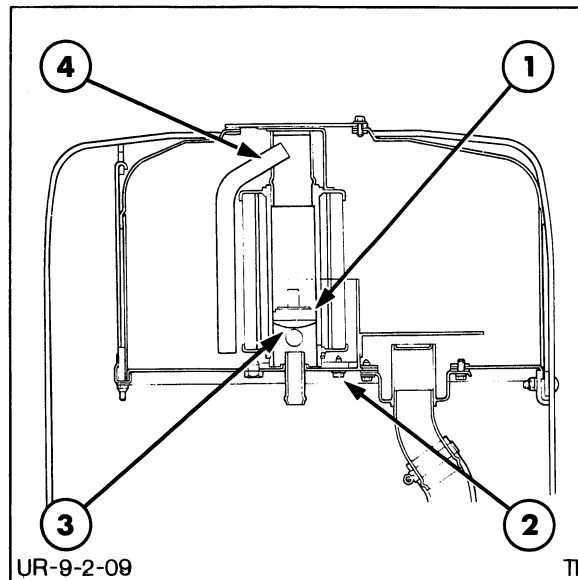

FIGURE 8-109
5. Remove the by-pass valve tube retaining bolts and the tube as an assembly from within the reservoir, Figure 8-109.